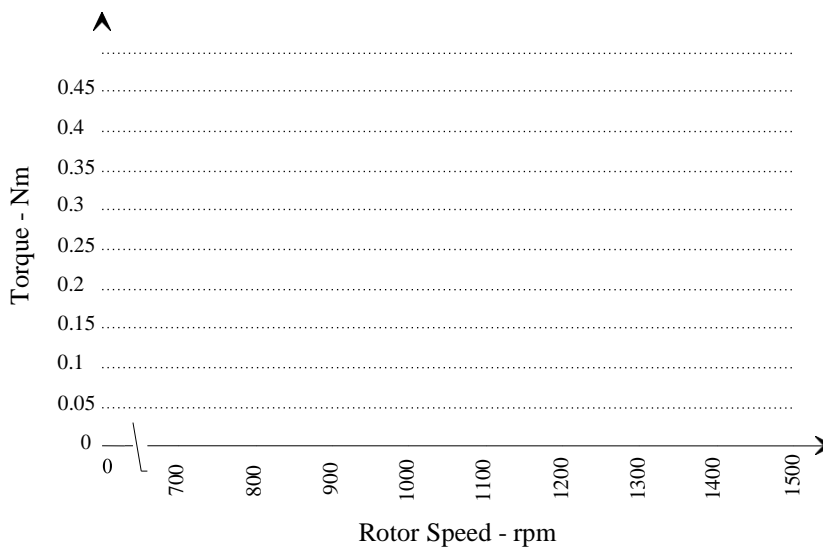

Figure 3
3. On the axes shown in figure 3 draw the speed-torque curve for the motor tested.
4. Based on your observations and the graph in figure 3, what effect does increased load have on the speed of an induction motor?